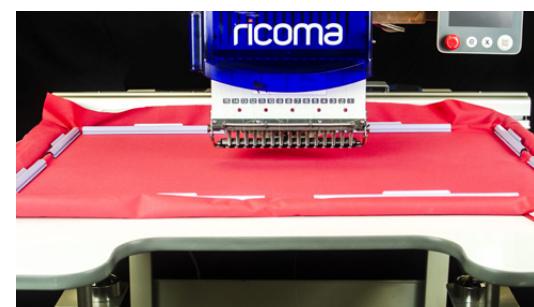

Figure 59
1. Place the hooped sash frame over the extended table and clip back any excess fabric that may interfere with the pantograph rail. **See Figure 59.**